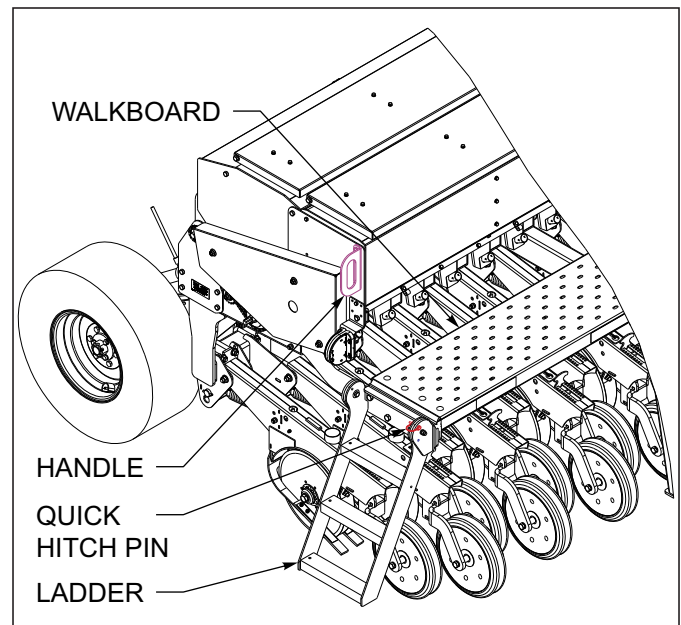

Figure 4-44: Ladder Down Position
- a. Lower ladder to the down position and place pin in the storage location to gain access to the seed boxes See Figure 4-44